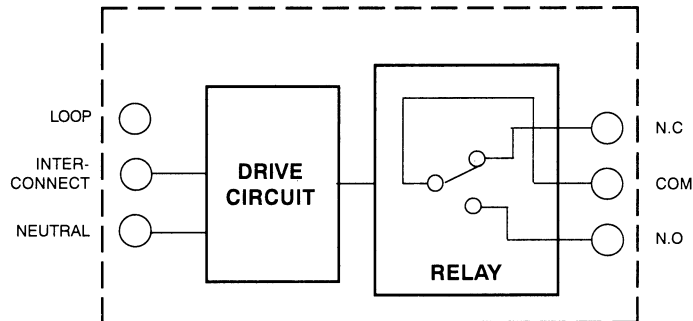

Figure 1
- Figure 1 illustrates the internal block diagram for the 756 and highlights the change-over switch contact arrangement.